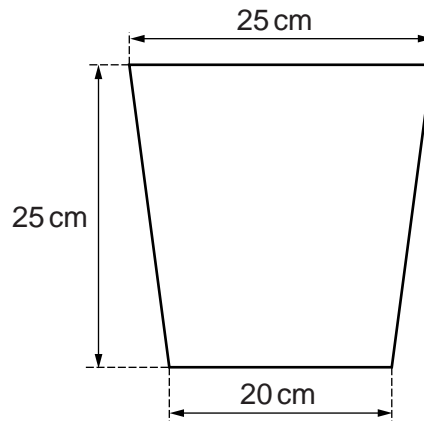

Fig. 2.3
- 3 The approximate dimensions of the bucket should be as shown in Fig. 2.3.